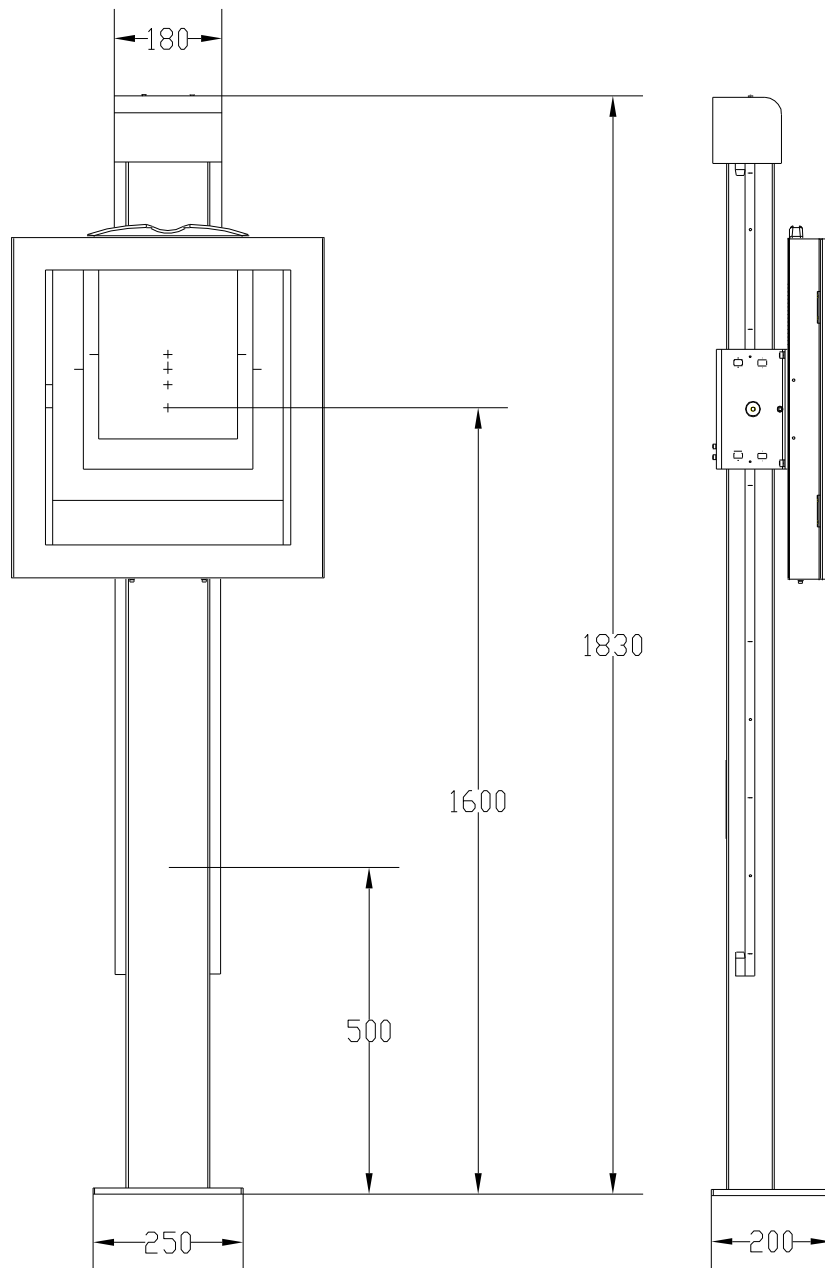
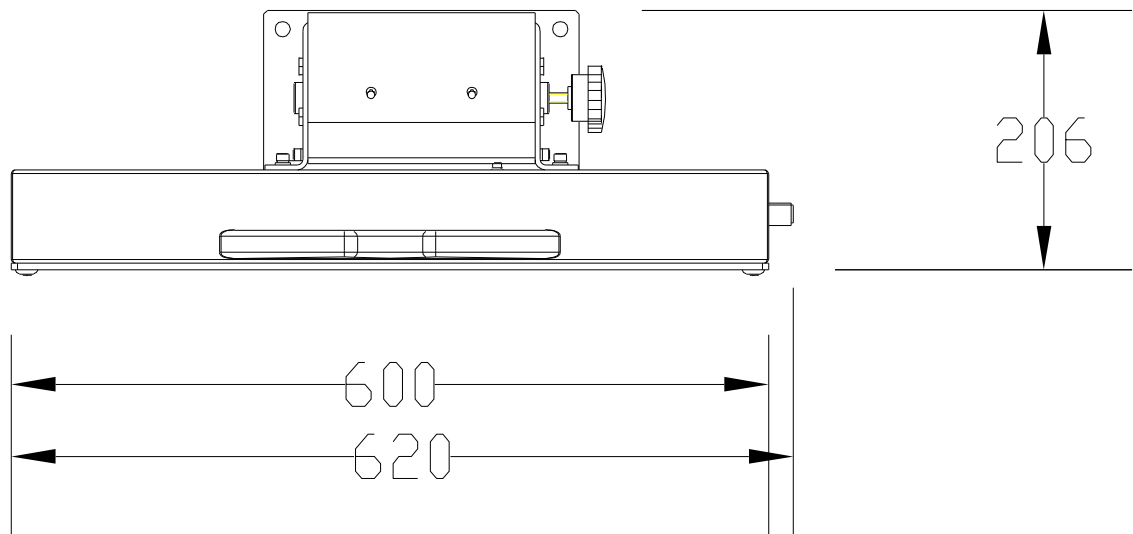

Figure 5-15 Basic Wall Stand Plan View
Figure 5-18 Standard Wall Stand Top View
- Basic Wall Stand - Figure 5-15 through Figure 5-18.